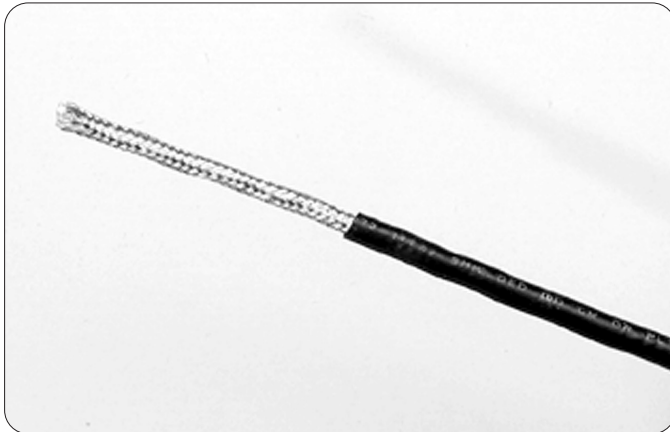

Figure 3.12: Removing outer plastic jacket
Prepare the network cable for connection to the MX actuator terminal block, as illustrated in Figures 3.12 through 3.15.
1. Remove 5 to 8 cm (2 to 3 in) of the outer plastic jacket, as shown in Figure 3.12. Do not cut or nick the drain wire or the insulated conductors.
Prepare the network cable for connection to the MX actuator terminal block, as follows in Figures 3.12 through 3.15. Table 3.6 details connections for Foundation Fieldbus.